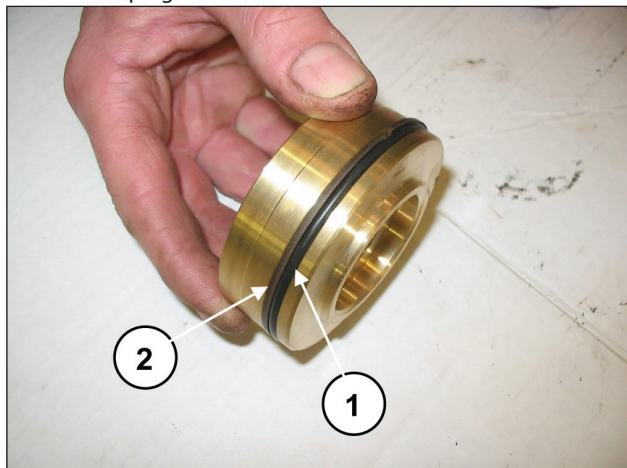

Fig. 114
Fit the O- ring, exploded view pos. 17 (pos. ①, Fig. 114) and back-up ring, exploded view pos. 21 (pos. ②, Fig. 114) on the outlet valve plug.